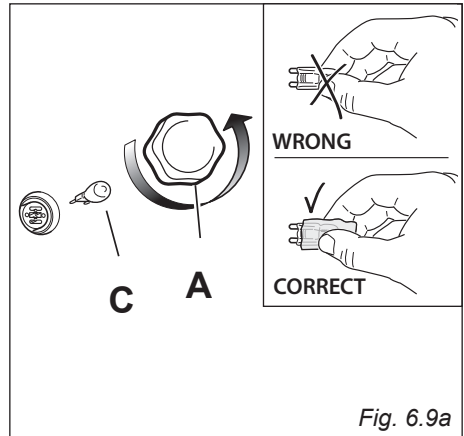

Fig. 6.9a
- Remove the protective cover “A” (fig. 6.9a).